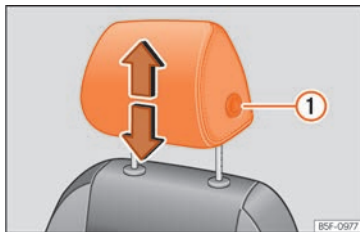
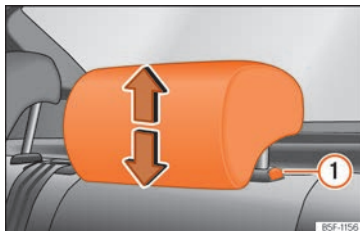

Fig. 108 Front seat: headrest adjustment.
Fig. 109 Rear headrest: headrest adjustment. »
- Grab the sides of the headrests with both hands and push upwards to the desired position. To lower it, repeat the same action, pressing the ① »» Fig. 108 »» Fig. 109 button on the side.
- Press the side button »» Fig. 108 ① and remove the headrest.